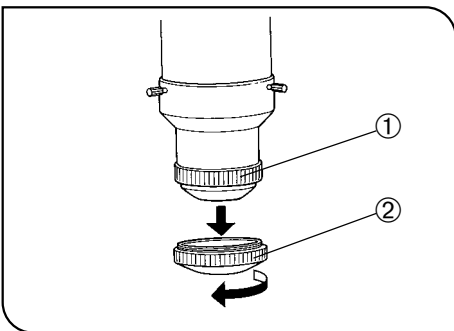

Fig. 18
Hold the rotary ring ① and rotate the fixing ring ② in the direction of the arrow to remove the cap. (Fig. 18)